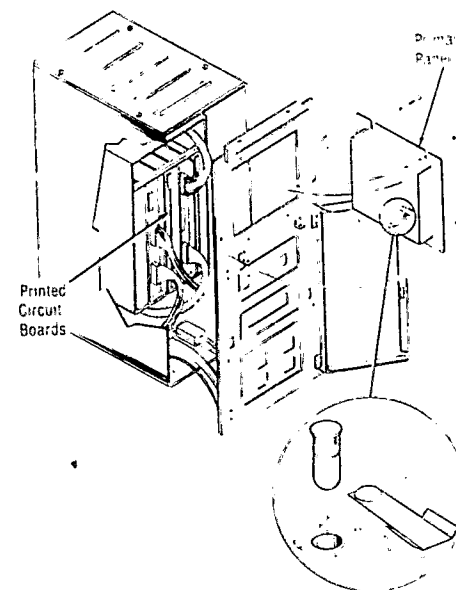

Figure 7-13. REMOVAL OF PRIMARY PANEL.
2. The primary panel is held in place by four screws. Remove those if servicing is necessary. See Figure 7-13.
3. The bulbs in the primary panels are removed by moving the retainer aside and lifting out the bulb, as shown in Figure 7-13.